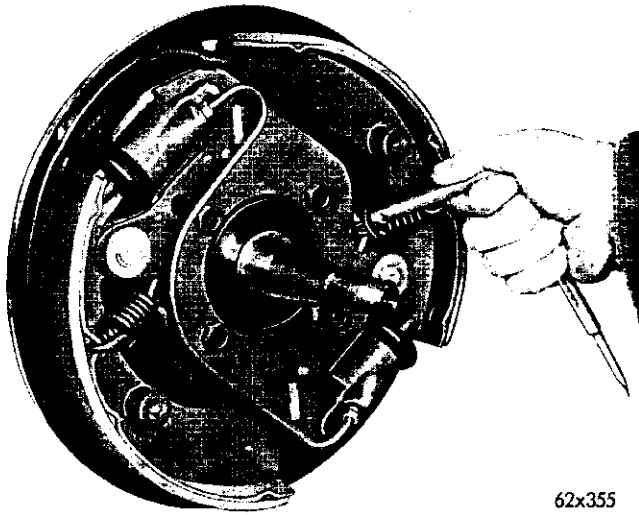

Fig. 7—Removing the Brake Shoe Return Spring
(1) Block the brake pedal to prevent any downward movement of the pedal.
(2) Remove the front wheel and drum as an assembly, after backing off the adjusting cams.
(3) Use Tool C-3462 to remove the shoe return springs, as shown in Figure 7. The end of the tool should be inserted between the spring and the brake shoe web to remove the shoe return spring.
(3) Use Tool C-3462 to remove the shoe return springs, as shown in Figure 7. The end of the tool should be inserted between the spring and the web of the brake shoe to remove the shoe return spring.